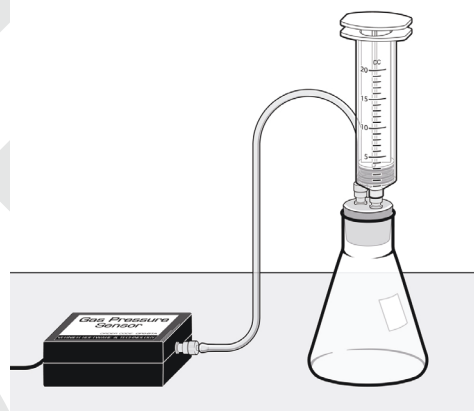

Figure 1
2. Insert the stopper that comes with the gas pressure sensor into the flask; use the tubing to connect it to the sensor. Set the syringe volume to zero and attach it to the other connector on the stopper (see Figure 1).